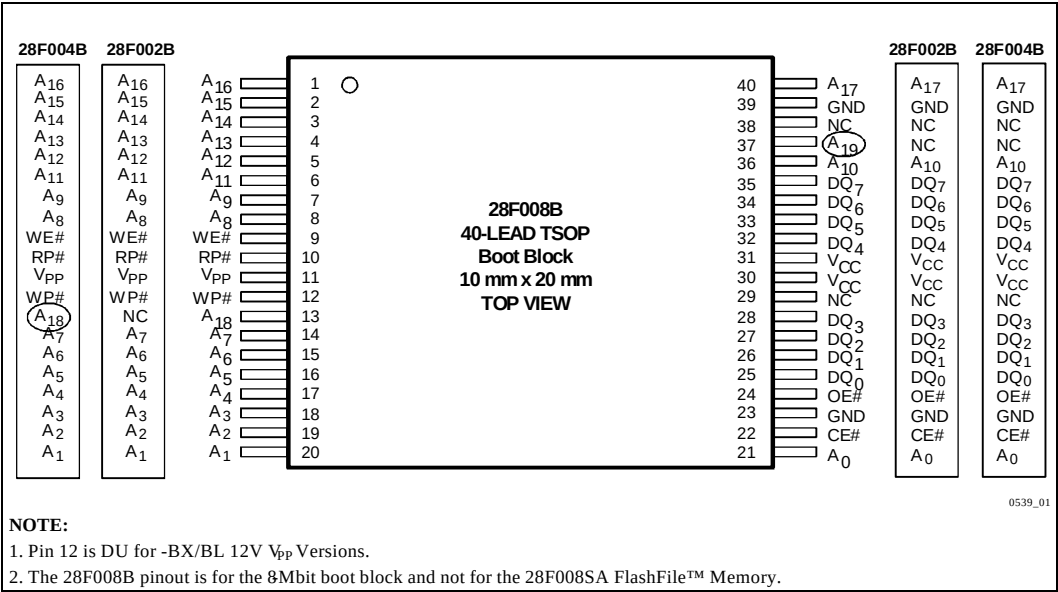

Figure 1. The 40-Lead TSOP Offers the Smallest Form Factor for Space-Constrained Applications
- WP# pin has replaced DU (Don’t Use) pin #12 in the 40-lead TSOP package. In the 44-lead PSOP, DU pin #2 is replaced with A₁₈ (see Figure 1 and Section 3.4 for details). Connect the WP# pin to control signal or to V_{CC} or GND (in this case, a logic-level signal can be placed on DU pin #12 for 40-lead TSOP). See Tables 2 and 9 to see how the WP# pin works.
To upgrade from lower density SmartVoltage boot block products, the similar pinouts in the 40-lead and 48-lead TSOP packages provide easy upgrades by adding extra address lines (see Figures 1 and 3). In the 44-lead TSOP, the WP# pin on the 2-Mbit and 4-Mbit BV parts becomes A₁₈, removing the capability to unlock the boot block with a logic-level signal in this package **only**. The boot block can still be unlocked with 12V on RP# (see Figure 2 and Section 3.4 for details).
The 28F800 products are available in the 44-lead PSOP (Plastic Small Outline) package (a ROM/EPROM-compatible pinout) and the 48-lead TSOP (Thin Small Outline, 1.2 mm thick) package as shown in Figures 2, and 3, respectively. The 28F800 is not available in 56-lead TSOP. The 28F008B products are available in the 40-lead TSOP package as shown in Figure 1. Refer to the DC Characteristics Table, Section 5.2 (commercial temperature) and Section 6.2 (extended temperature), for complete current and voltage specifications. Refer to the AC Characteristics Table, Section 5.3 (commercial temperature) and Section 6.3 (extended temperature), for read, write and erase performance specifications.
The 28F008B 40-lead TSOP pinout for space-constrained designs is shown in Figure 1. For designs that require x16 operation but have space concerns, refer to the 48-lead pinout in Figure 3. The 28F800 44-lead PSOP pinout follows the industry-standard ROM/EPROM pinout, as shown in Figure 2.